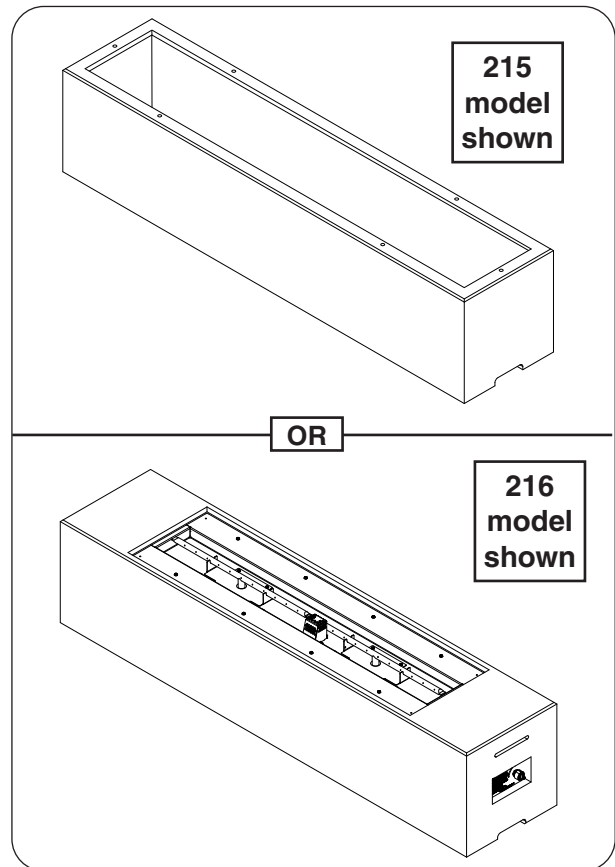

Fig. 24-1 Place unit/base
1. **CAREFULLY** place the unit/base in an appropriate location (see Fig. 24-1, and refer back to the LOCATION section if needed).